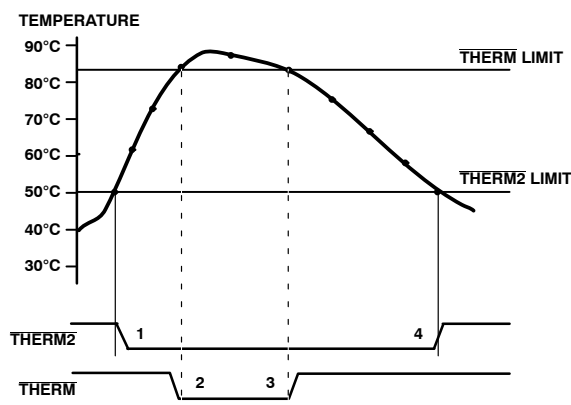

**Figure 20. Operation of the  $\overline{\text{ALERT}}$  and  $\overline{\text{THERM}}$  Interrupts**
Figure 20 shows how the  $\overline{\text{THERM}}$  and  $\overline{\text{ALERT}}$  outputs operate. A user may choose to use the  $\overline{\text{ALERT}}$  output as an  $\overline{\text{SMBALERT}}$  to signal to the host via the SMBus that the temperature has risen. The user could use the  $\overline{\text{THERM}}$  output to turn on a fan to cool the system, if the temperature continues to increase. This method would ensure there is a fail-safe mechanism to cool the system without the need for host intervention.
3. The  $\overline{\text{THERM}}$  output deasserts (goes high) when the temperature falls to  $\overline{\text{THERM}}$  limit minus hysteresis. The default hysteresis value of 10°C is shown in Figure 20.